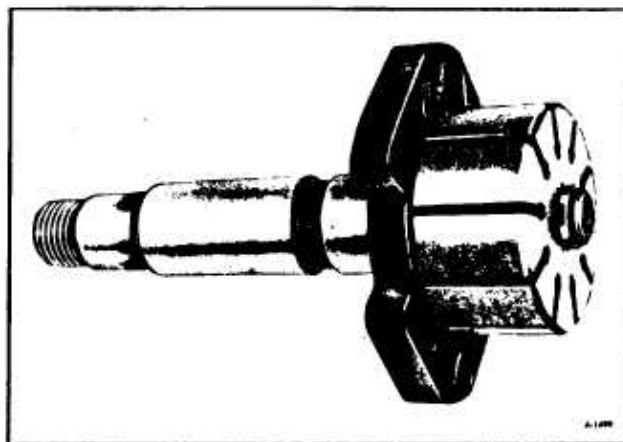

Figure 17—Shaft With Thrust Plate and Rotor
4. Insert shaft through thrust plate and rotor, and install new snap ring on shaft. Open the snap ring just enough to slide over the end of shaft. (Rotor must have counter sunk side toward thrust plate.) (figure 17).